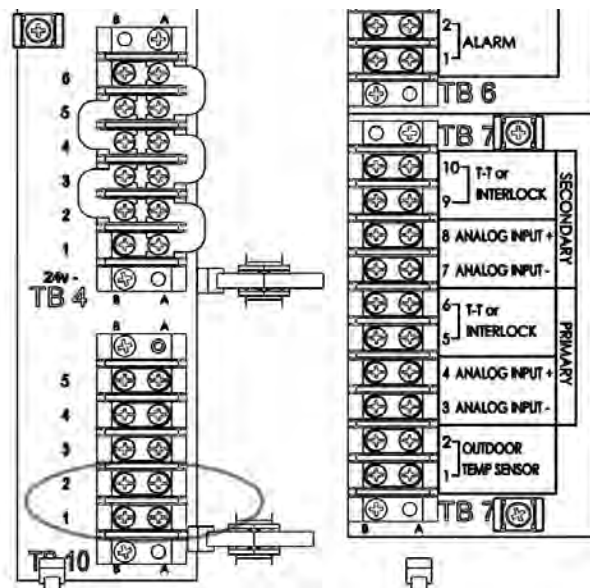

Figure 34. Disconnecting an Unused Touch Screen. Also see Figure 18 on page 36
3. Locate terminal block 10 (TB10). See Figure 34. Remove the jumper connecting pins 1 and 2 on TB10. You can also reference Figure 18 on page 36 for connections.